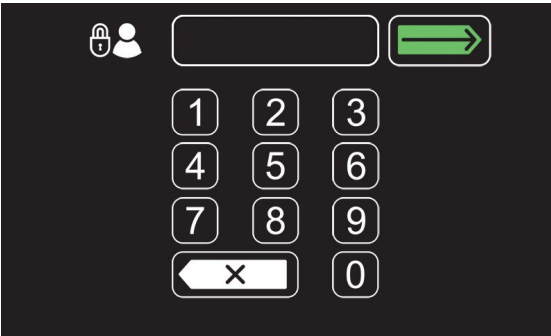

FIG. 148
9. Now at machine start up, a login screen will display (Figure 148). The new user will need to enter their assigned login number to operate machine